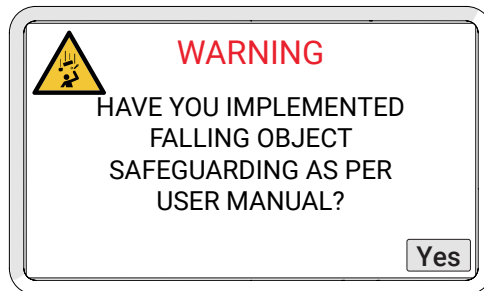

Fig. 198 - Falling object warning
- A second warning message (Fig. 198) will display requesting assurance that a No Entry Fall Zone has been established (see “Preparation for Safe Use” on page 32) and tether requirements are met (see “Tether Requirements and Attachment” on page 33). Acknowledge this warning by touching **Yes**.